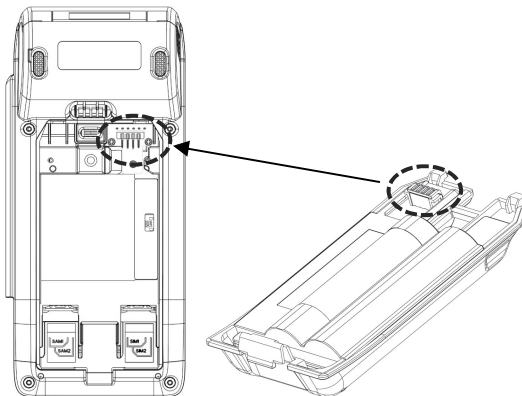

Figure 10
STEP 1: Insert the battery connector into AT100 as Figure 10.